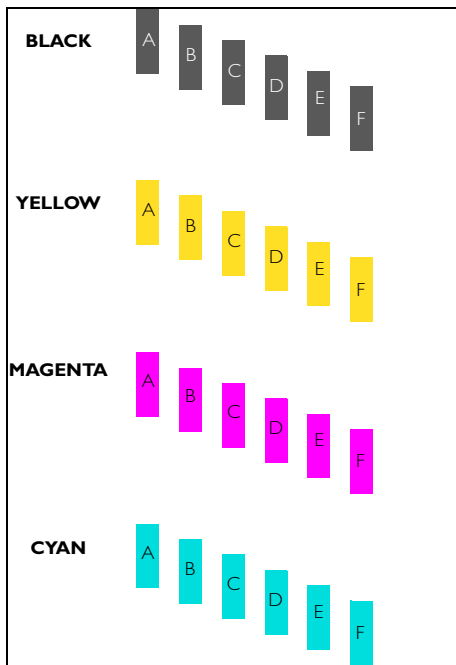

Figure 48. Print Head Arrangement on Head Carriage
The procedure described in this section may be performed at any stage at which it becomes necessary to replace one or more of the Grandjet Classic print heads. In maintaining reliable system performance, print head replacement will ensure dependable, high quality print output. The twenty-four print heads, which are precisely arranged on the head carriage in four arrays of six, are grouped according to color as shown in Figure 48.
20. Working from the inside of the head carriage, and the uppermost group of heads (*black*), carefully mount one of the new print heads into the innermost available slot (refer to Figure 48 on page 5-2 and work outwards from A to F), proceeding as follows:
Each block of printed lines corresponds to the print head arrangement on the head carriage - see Figure 48 on page 5-2.